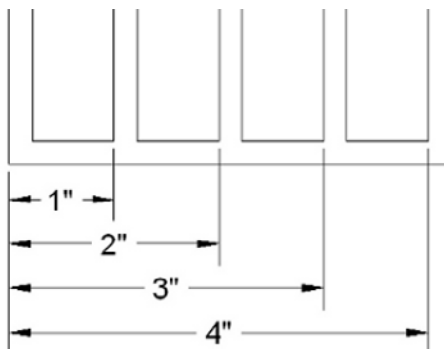

Figure 6.9 – Baseline dimensions
- **Baseline Dimensions** – These are a continuous *stack* of dimensions (Figure 6.9).